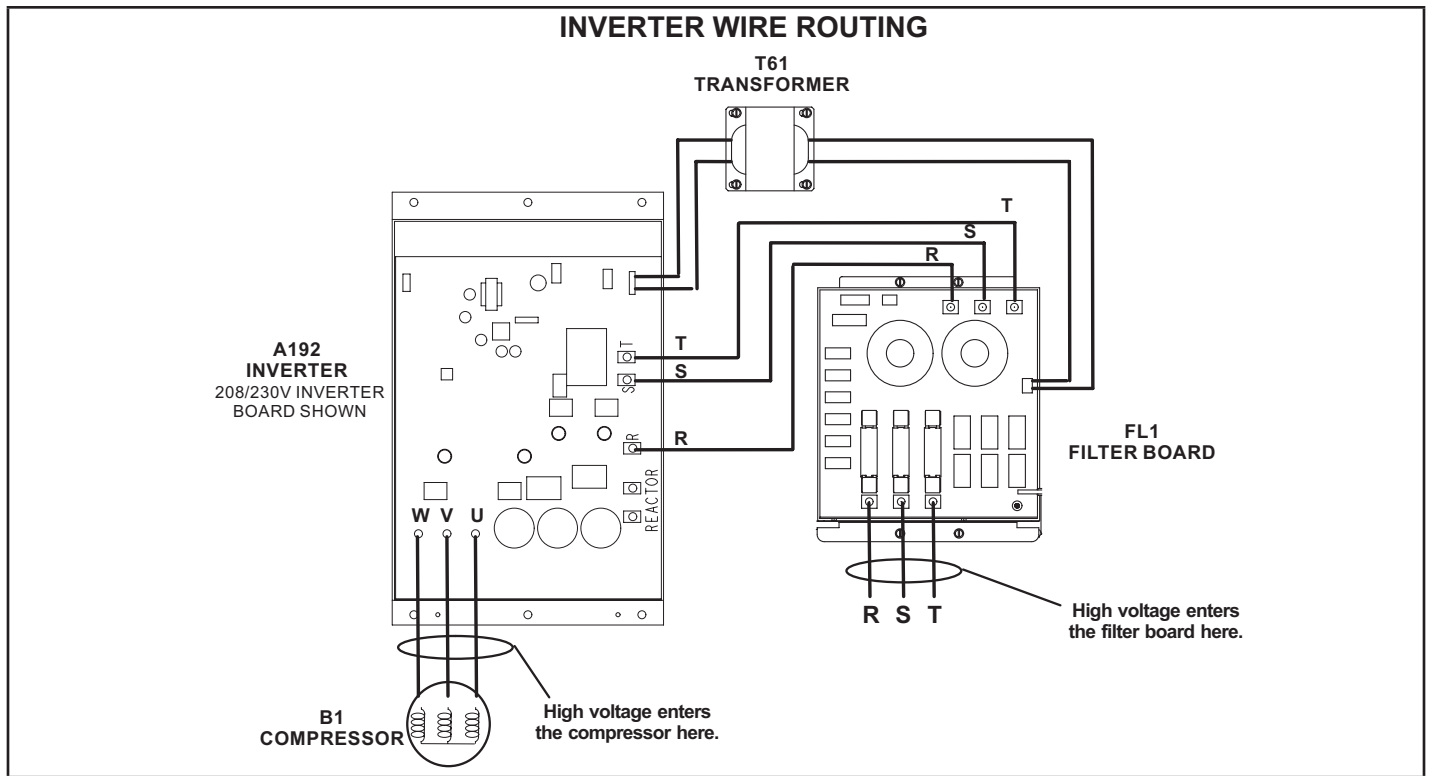

FIGURE 14
- A communication issue - check MODBUS communication wire for good connections between the Unit Controller and the inverter board. See TABLE 3 for inverter-related alarms. Inverter component wire routing is shown in FIGURE 14.